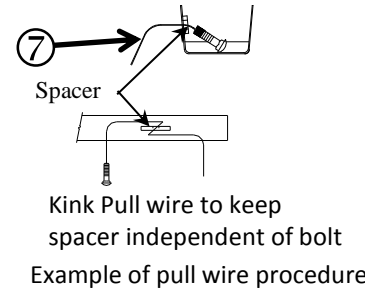
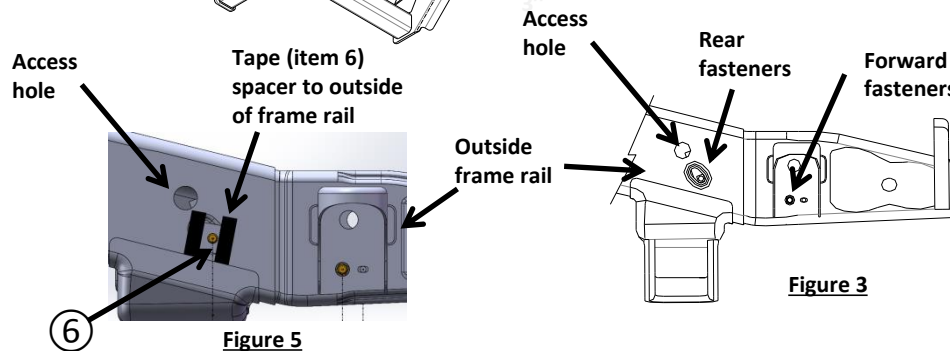
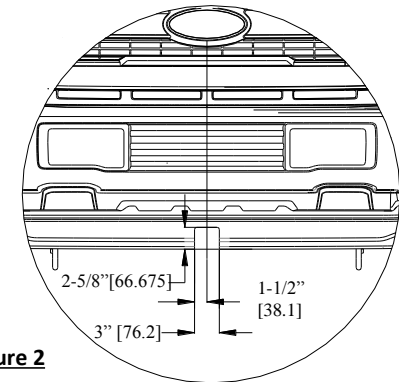

Figure 4
Figure 5
Figure 2
- Trim or remove lower air dam. See Figure 2 If cutting, recommend drilling 3/8" at corners to maintain radius for appearance. See Figure 2
- Feed the coiled end of the pull wire through the bolt forward attachment hole in the side of the frame and out the access hole. (Note: driver & passenger side use opposite hole positions) Attach carriage bolt and spacer (item 1 & 2) to the pull wire. Pull the pull wire with fasteners into location through the hole. Leave pull wires attached. Repeat the same process on the both frame rails.
- Feed the coiled end of the pull wire through the bolt rearward attachment hole in the side of the frame and out the access hole. Attach carriage bolt and spacer (item 1 & 5) to the pull wire. Pull the pull wire with fasteners into location through the hole. Leave pull wires attached. Repeat the same process on the both frame rails.
- Tape spacer (item 6) to rearward attachment location. See Figure 5. Then push all fasteners back into the frame rail leaving the pull wire attached and sticking out. See Figure 4
1. Trim or remove lower air dam. See Figure 2. If cutting, recommend drilling 3/8" at corners to maintain radius for appearance.
2. Feed the coiled end of the pull wire through the bolt forward attachment hole in the side of the frame and out the access hole. (Note: driver & passenger side use opposite hole positions) Attach carriage bolt and spacer (item 1 & 2) to the pull wire. Pull the pull wire with fasteners into location through the hole. Leave pull wires attached. Repeat the same process on the both frame rails.